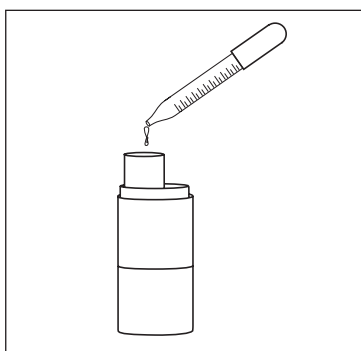

Figure 4/Figura 4
- Assemble clean nebulizer parts by placing baffle down in nebulizer chamber. Holding chamber stationary, screw on nebulizer cap. Add prescribed medication through the opening on cap using a medicine dropper or pre-measured dose container **Figure 4**.